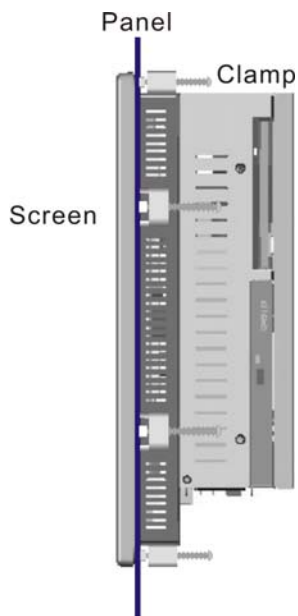

Figure 4-22: Tighten the Panel Mounting Clamp Screws
Step 5: Tighten the screws that pass through the panel mounting clamps until the plastic caps at the front of all the screws are firmly secured to the panel (**Figure 4-22**).